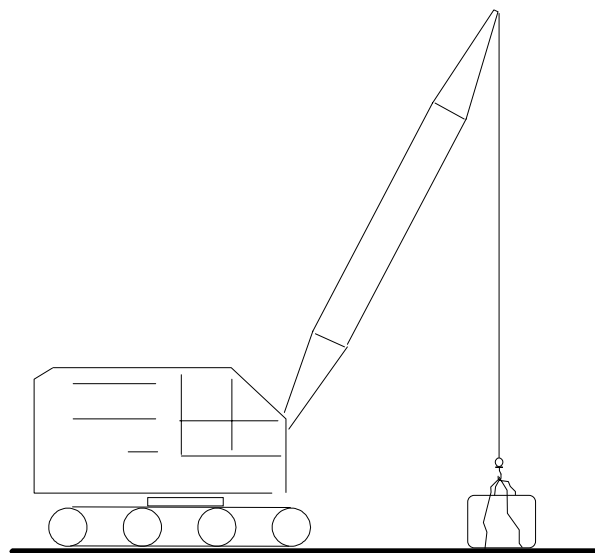

Figure 9
6. Leaving the test weight on the ground, lift the rigging, letting it hang slack from the hook (Fig. 9).